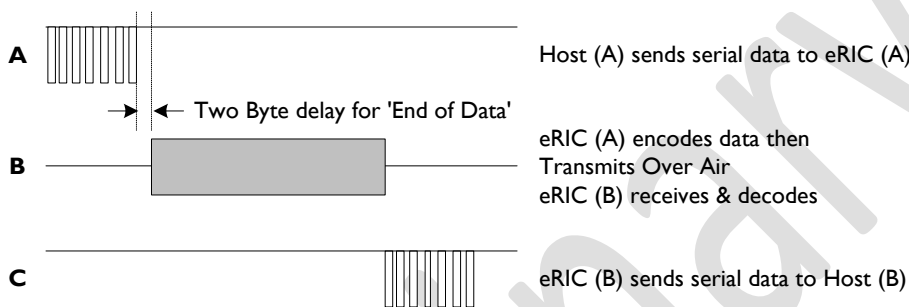

Figure 5 Timing Diagram
- A. Host (A) sends serial data to eRIC (A). The data must be continuously streamed (no breaks) at the selected host baud rate and is loaded into an internal transmit buffer.
- C. Data within the receive buffer of eRIC (B) will be sent to Host (B) at the selected baud rate.
Host (A) must allow time for the complete 'Over Air' transmission and for the receiving Host (B) to unload (and process) the data before sending new data. (See Figure 5). There is no automatic 'RF handshaking' provided by the eRIC transceivers. Radio transmission and reception is bi-directional (half duplex) i.e. transmit OR receive (but not simultaneously) and there is no automatic confirmation of the satisfactory reception of the data.